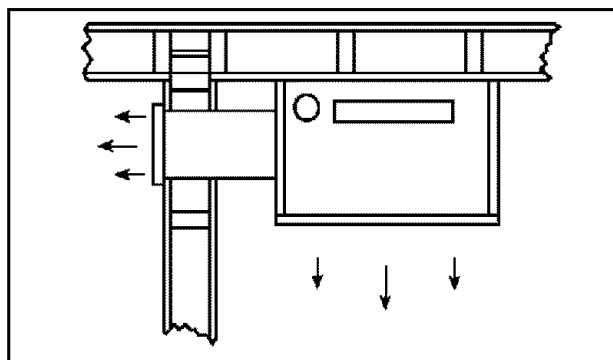

FIGURE 17
2. Cut opening in drywall as shown in Fig. 17.
3. Position plasterground as shown in Fig. 17 (optional).